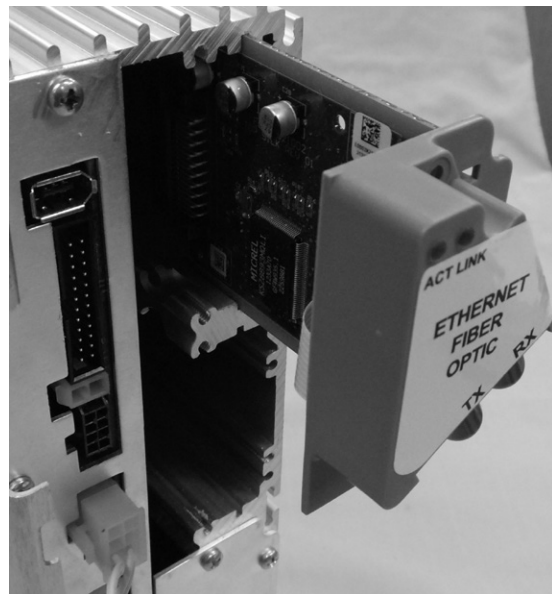

Figure 9. Inserting communications module into Com Port 1 communications slot
- Install the communications module into the top communications module slot (Com Port 1) and secure with two of the screws retained in Step 1. See Figures 9 and 10.